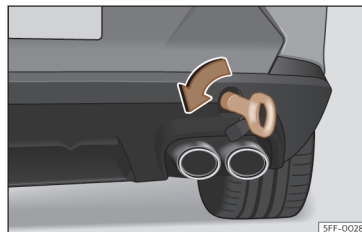

Fig. 47 On the right side of the rear bumper: towline anchorage in position.
- Screw the towing eye in the housing by turning it to the maximum **anticlockwise** »» **Fig. 47** »» ❶. Use a suitable object that can completely and securely tighten the towing eye in its housing.